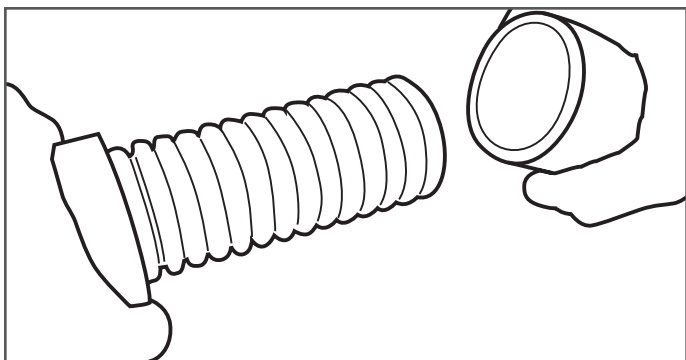

Figure 7-5
6. Remove portion of outer jacket (Figure 7-5).